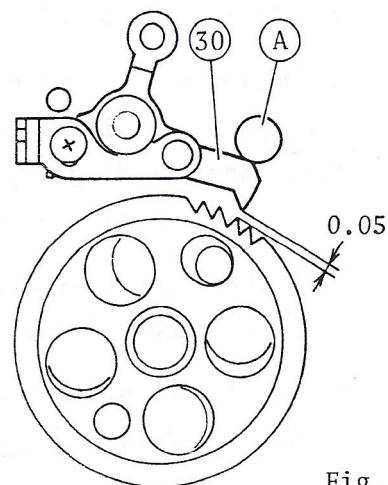

Fig. 79
- c. At this time, clearance between the (30) wind stop lever and (A) stopper should be approximately 0.05mm. (Fig. 79)